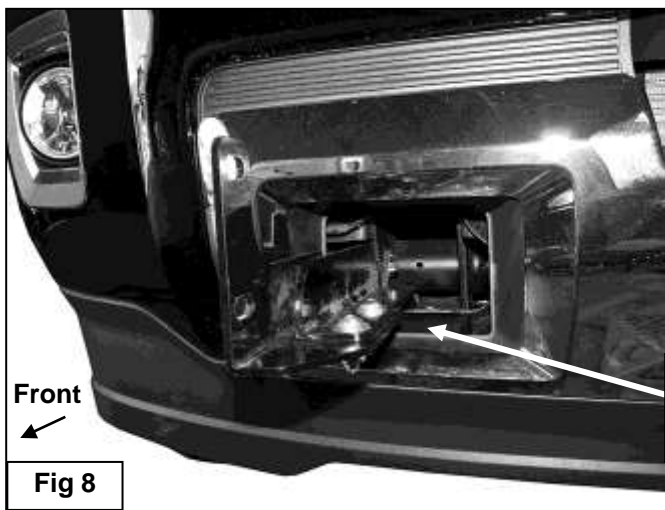

Fig 8
4. Select the passenger side Mounting Bracket, **(Figure 7)**. Bolt the Mounting Bracket to the bottom of the Frame Bracket with (2) 10mm x 30mm Button Head Bolts, (4) 10mm Flat Washers and (2) 10mm Nylon Lock Nuts, **(Figure 8)**. Do not tighten hardware at this time.